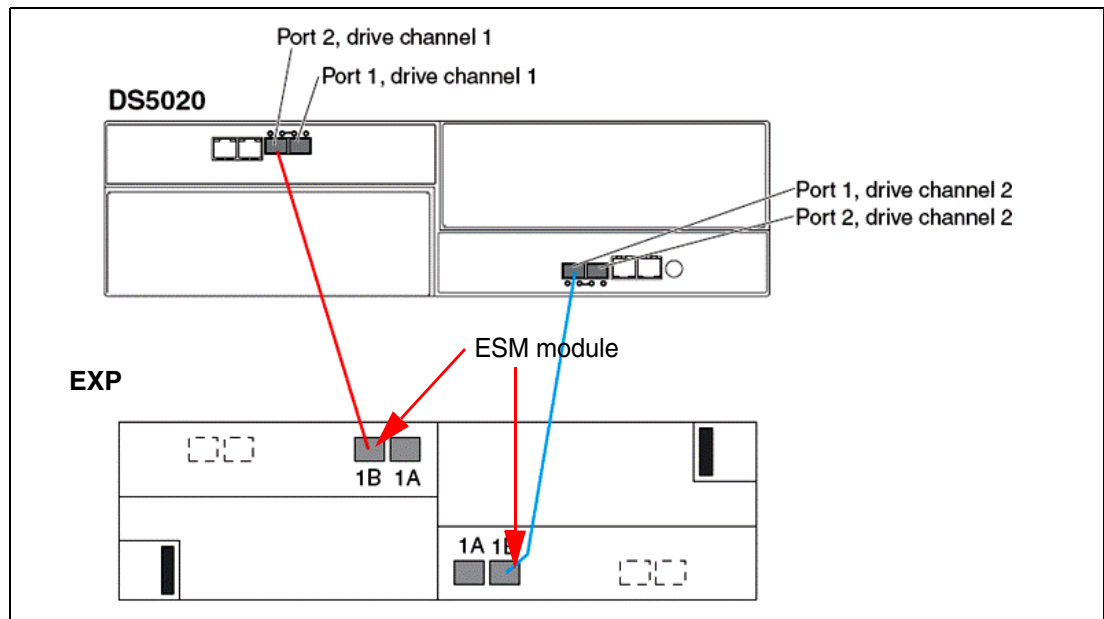

Figure 2-87 DS5020 drive cabling with one EXP
- If you attach only one enclosure, make sure that you have one connection to each of the controllers, thus using one of the two ports on each controller (controller A port 2 and controller B port 1), as shown in Figure 2-87.